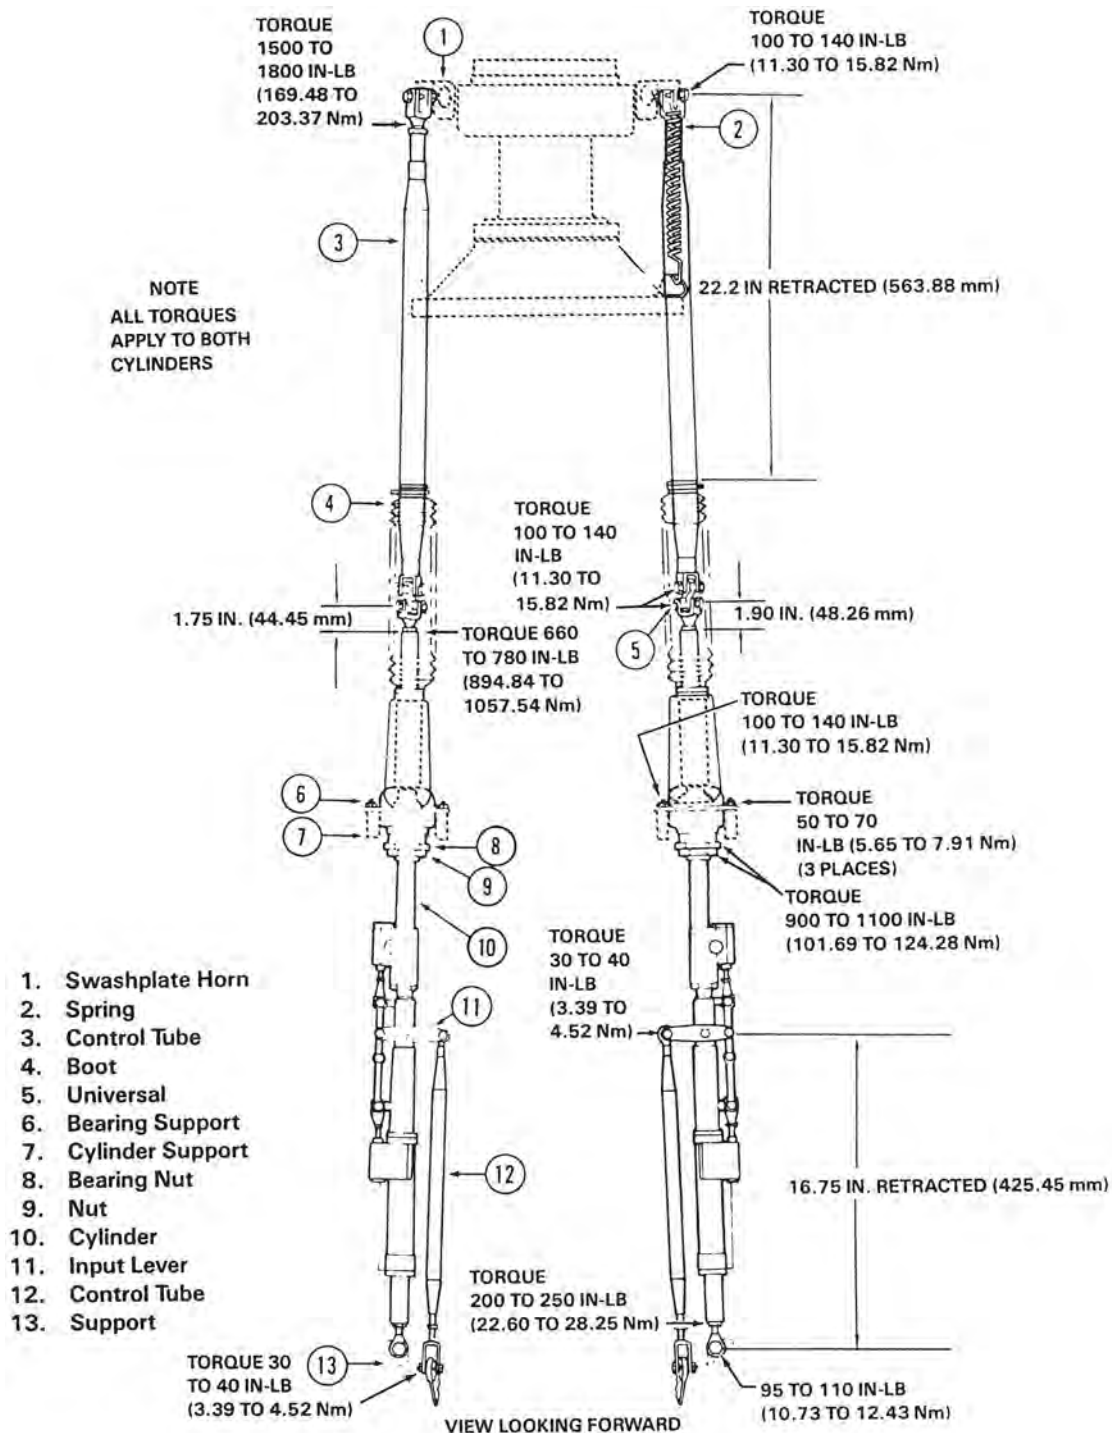
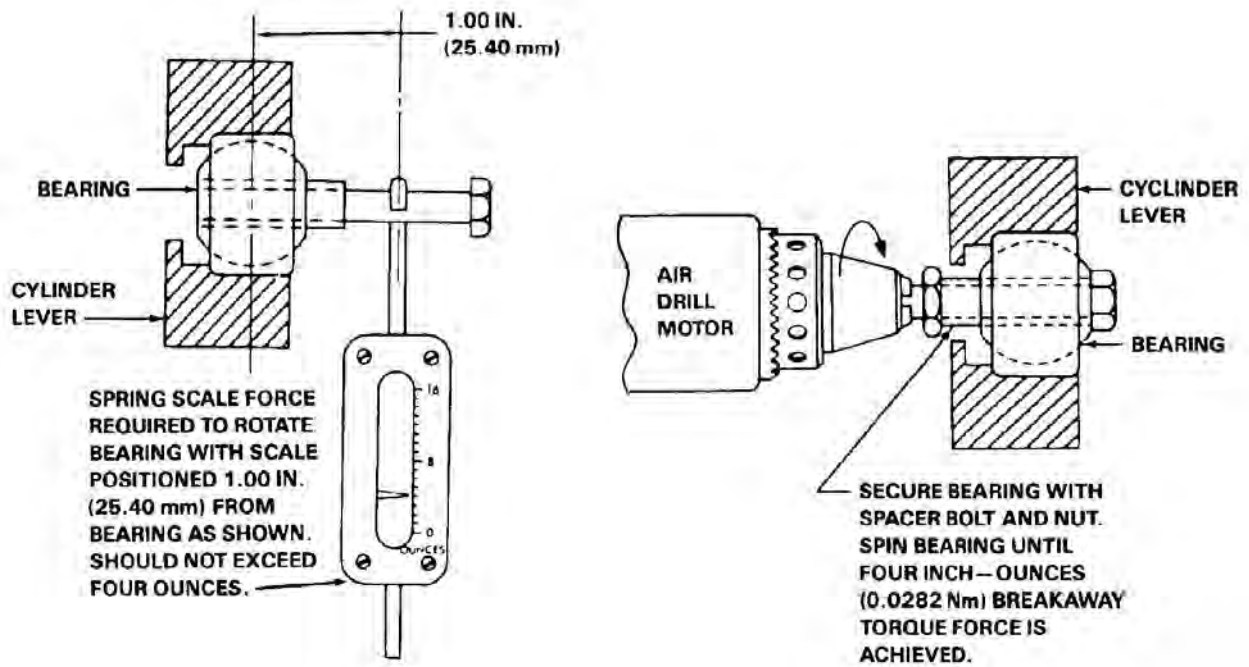

Figure 29-9. Cyclic Hydraulic Cylinder
Figure 29-11. Tail Rotor Hydraulic Cylinder Lever Bearing
29.3.9.1.3 Remove nut, washer and bolt to disconnect control tube (12, Figure 29-9) from input lever (11).
29.3.9.2.2 Install clevis with jamnut and rod end lock in end of hydraulic cylinder (10, Figure 29-9) to dimension of 1.75 in. (44.45 mm) for left cylinder and 1.90 in. (48.26 mm) for right cylinder between end of cylinder rod and center of holes in clevis.
29.3.9.2.6 Slip boot (4) over end of control tube (3) and secure lower end of boot above cylinder bearing support. Establish 22.2 in. (563.88 mm) dimension as shown in Figure 29-9 with cylinder fully retracted and install clamp.
29.3.10.2.3.3 Attach a spring scale to attachment bolt and check force required to rotate bearing (Figure 29-11).
29.3.10.2.3.4 Should torque required to rotate cylinder lever (11, Figure 29-9) bearing exceed limit, use an air drill motor and attaching hardware previously removed to spin bearing until 4.0 in-oz. (0.0282 Nm) or less with no radial play is achieved (Figure 29-11).
Hydraulic pressure to operate the rotor brake system is provided by actuation of lever (5, Figure 29-11) on master cylinder (4) located in the cabin roof.